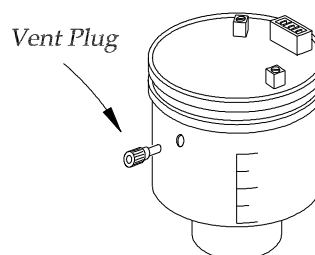

Fig. 4.2.13
12. Remount the vent plug (fig. 4.2.13) and gently shake the sensor to dislodge any air bubbles, which may have formed around the electrode.